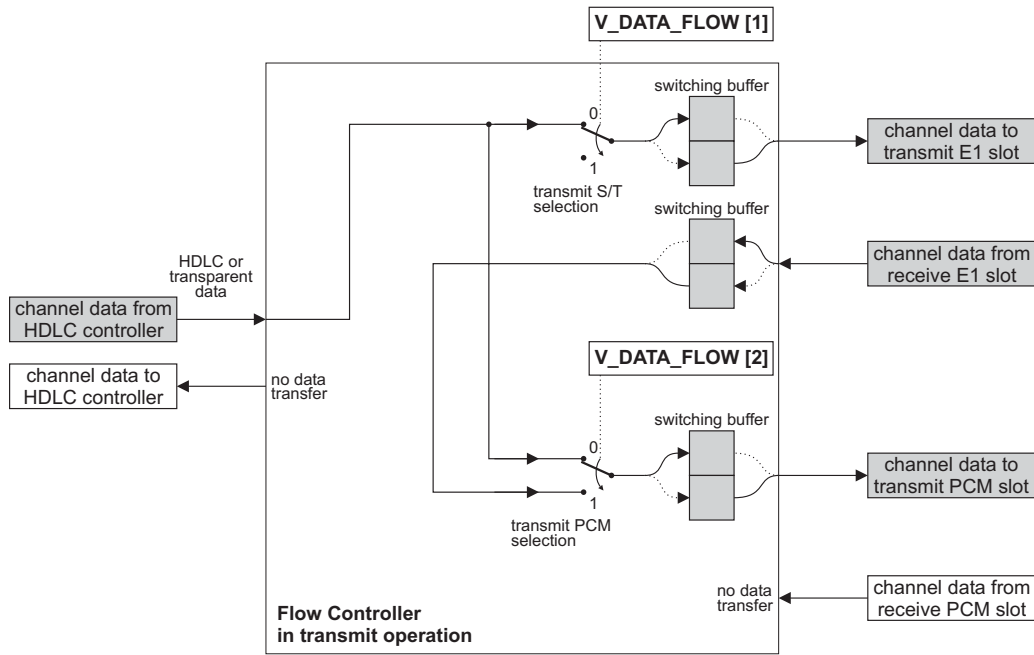

Figure 3.3: The flow controller in transmit operation
In transmit operation one HDLC or transparent byte is read and can be transmitted to the E1 and the PCM interface as shown in Figure 3.3. Furthermore, data can be transmitted from the E1 interface to the PCM interface. From the flow controller point of view, the switches select the source for outgoing data. The switches are controlled by the bitmap $V_DATA_FLOW[2..0]$ of the register $A_CON_HDLC[n,TX]$ where n is a FIFO number.
- The PCM interface can transmit a data byte which comes either from the FIFO or from the E1 interface. Bit $V_DATA_FLOW[2]$ selects the source for the PCM transmit slot (see Figure 3.3). The receiving E1 time slot has always the same number as the transmitting E1 time slot.